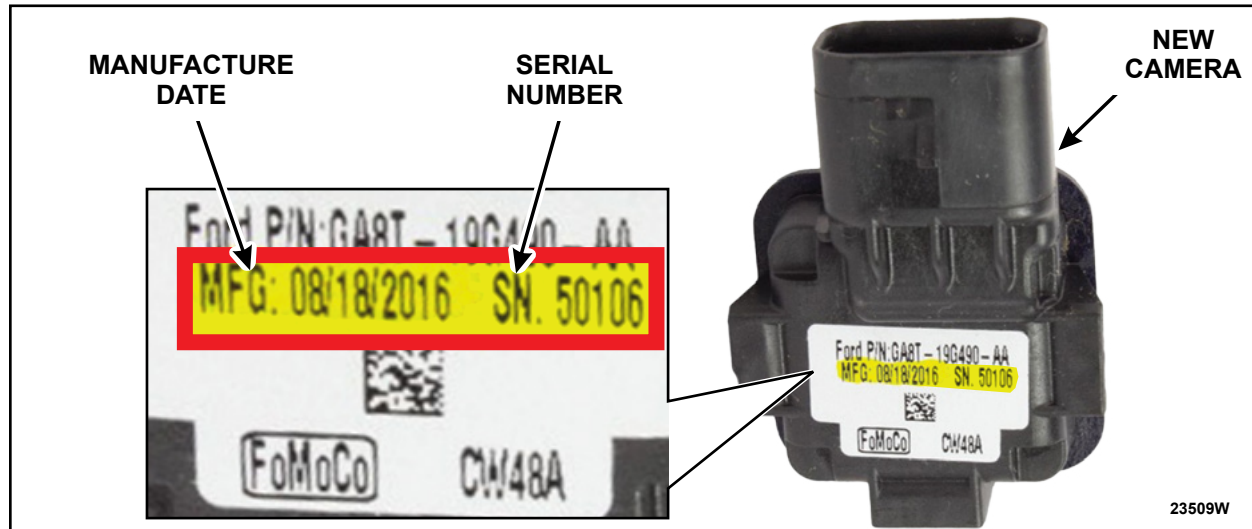

FIGURE 7
9. Write down and include the new camera manufacture date and serial number onto the repair order. The new camera manufacture date serial number should also be included in the warranty claim submission in the technician comments section. See Figure 7.